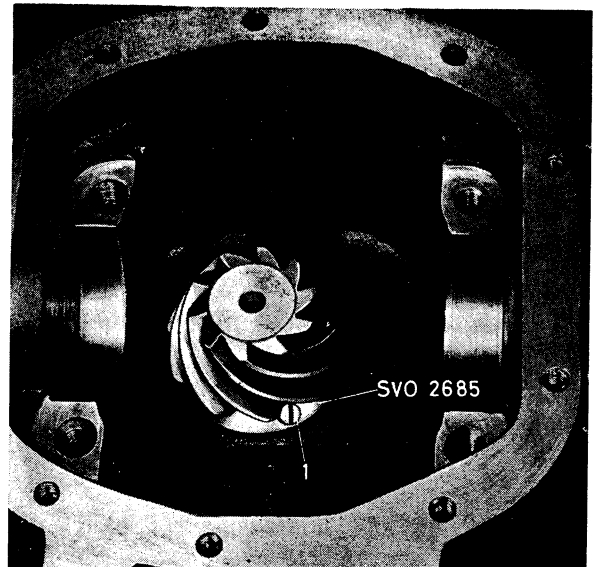

Fig. 4-146. Locating pinion with adjusting tool
1. Clean the marking surface on the pinion with extremely fine emery cloth. Fit the adjusting ring SVO 2685 and tool SVO 2684 on the pinion, see Fig. 4-145. Place the pinion in the carrier so that the bolt on the adjusting ring faces the bearing side of the carrier, see Fig. 4-146.